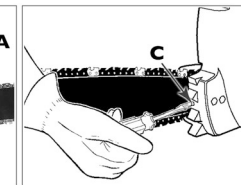

Fig. 5B
2. To adjust the chain is simple easy, turn the knob (B) clock wise. To lose the chain just turn counter clock. (Fig. 5B)